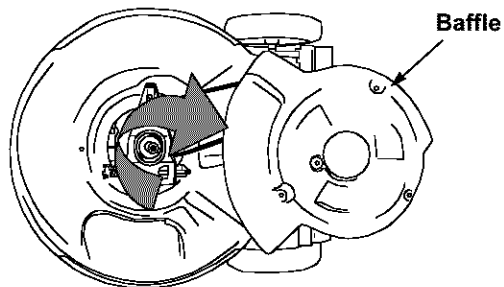

Figure 14
- Remove three hex screws holding the baffle to the deck and pivot baffle towards rear of the mower. See Figure 14.